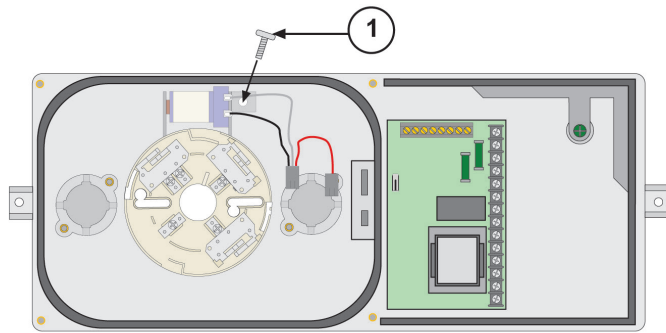

Figure 2.2: Mounting screw installation
3. Using one of the mounting screws, attach the test coil to the smoke detector base as shown in Figure 2.2: Mounting screw installation.